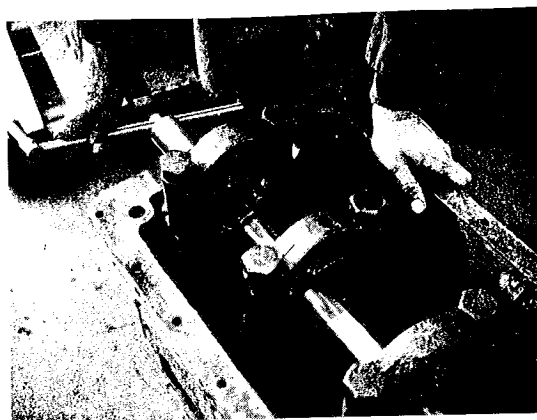

FIG. 4 INSTALLING CUTTER HOLDER
6. Install appropriate cutter holder and adjust the cutter to cut the full thrust bearing surface. The cutter should be inserted so it cuts when the boring bar is turned in a clockwise rotation. (Note: Left-hand and right-hand cutters). See Fig 4.